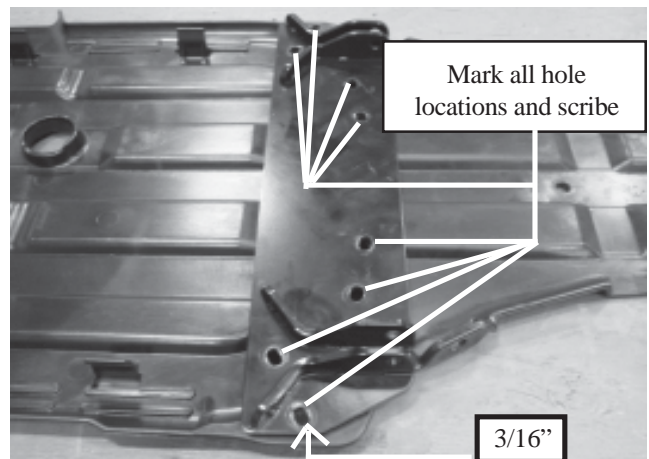

Figure 5
5. Place the edge of the plow mount $\frac{3}{16}$ " away from the edge of the skid plate. The opposing edge of the plow mount will hang partially over the edge of the skid plate. Make sure the plow mount is perpendicular to the skid plate. Mark all hole locations on the skid plate by scribing the plastic with a sharp object. Using a $\frac{11}{32}$ " drill bit, drill through the skid plate, as shown in figure 5.